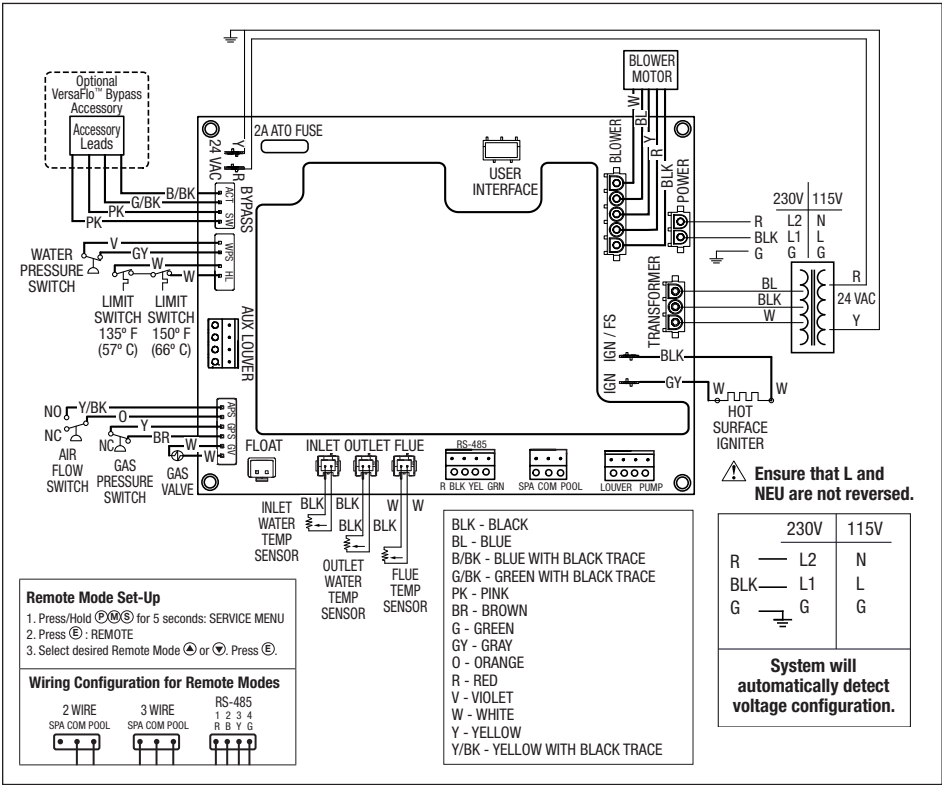

Figure 21. Wiring Diagram for 230/115 VAC Installations
Refer to *Figure 21* for a complete diagram of wiring connections and terminals.
- Connect the wiring from the pool/spa control system to the heater remote control terminal. See *Figure 21*.